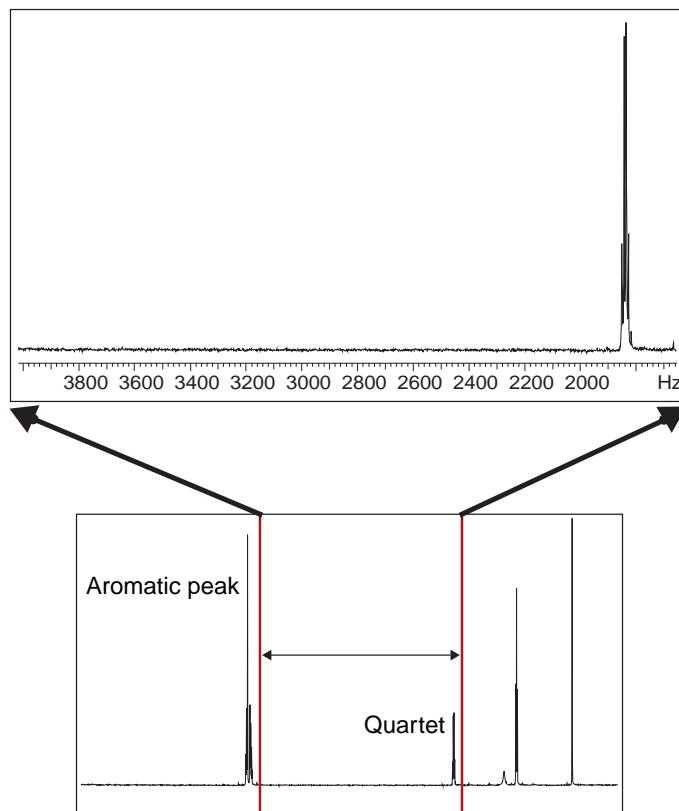

Figure 6. ^1H Sensitivity Measurement
5. When the spectrum is displayed, phase it and display the quartet, using the region from the right of the aromatic peak to the right of the quartet (see Figure 6).